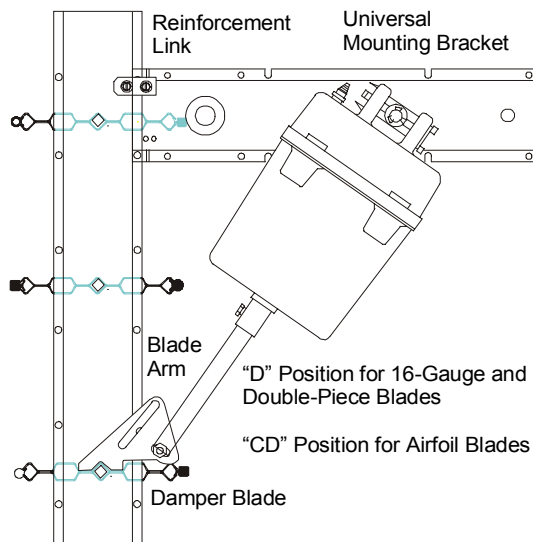
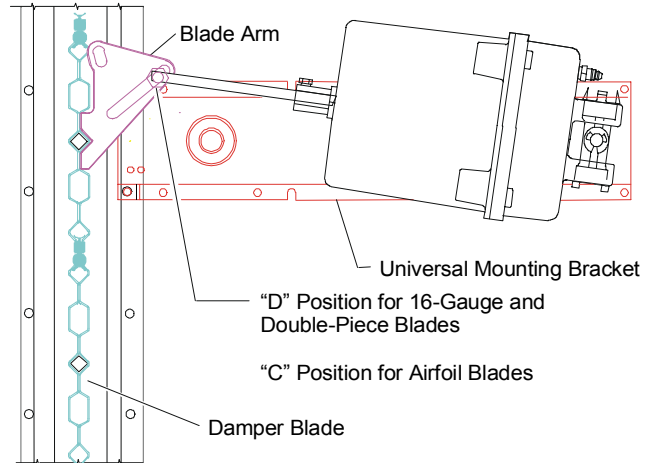

Figure 10: Actuator/Linkage Position for Power Fail Open Operation
Figure 11: Actuator/Linkage Position for Power Fail Closed Operation
1. Install the universal mounting bracket to the inside of the damper frame using the two holes next to the blade that is two above or two below the preferred driving blade for Power Fail Open (Figure 10), and next to the preferred drive blade for Power Fail Closed (Figure 11).